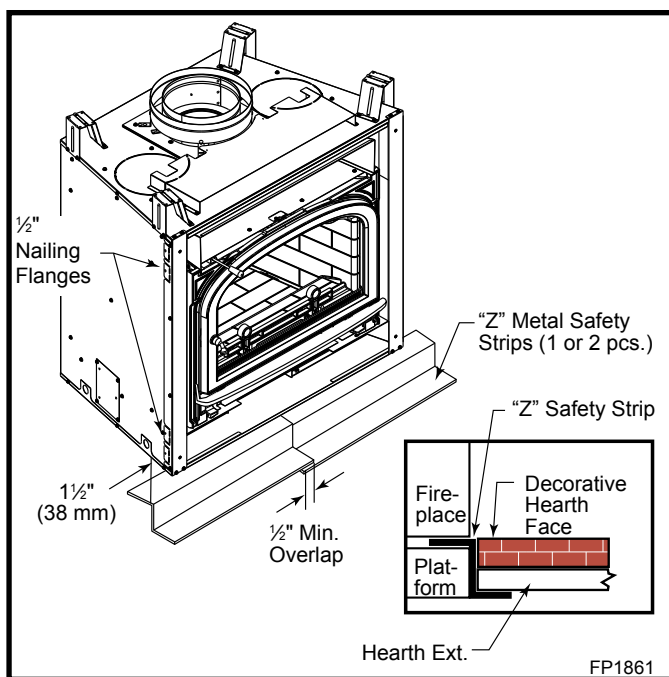

Fig. 13 Safety strip installation.
cated of metal. Overlap safety strips at least 1/2" to provide a positive joint. The safety strips must also extend at least 1 1/2" (38 mm) beyond the sides of the fireplace. (Fig. 13)
1. This unit is shipped with four (4) nailing flanges pre-mounted on either side of the fireplace to accommodate two (2) different drywall thicknesses. The 1/2" drywall flanges are shown in Figure 13 while the top and bottom flanges are for 5/8" drywall.